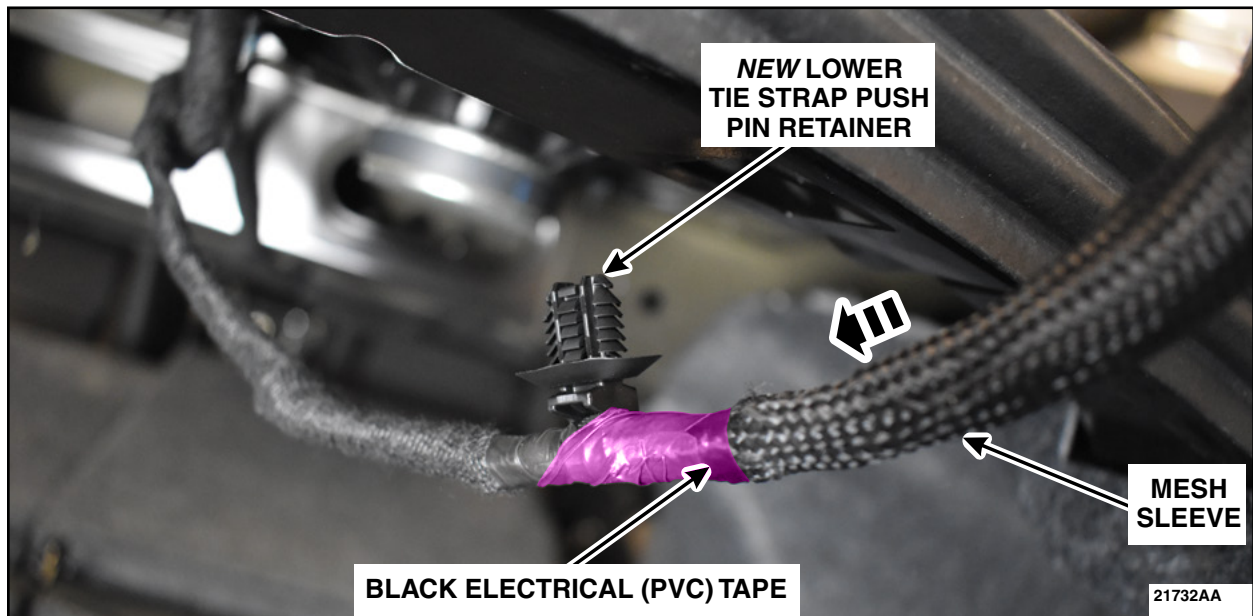

FIGURE 26
35. Slide the mesh sleeve down to the new lower tie strap push pin retainer and secure using some KT173510 or equivalent black electrical (PVC) tape. See Figure 26.